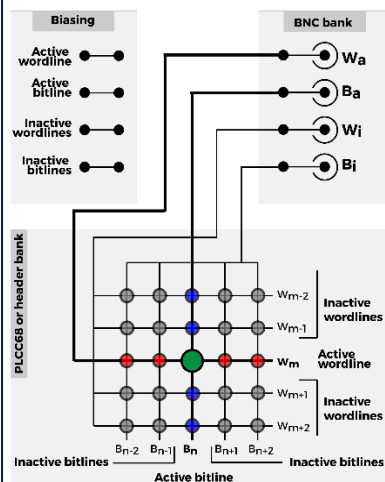

Figure 7: Live: BNC to Local session mode board connectivity.
3. **Live: BNC to Local** - in this operating regime the instrument's biasing circuitry is disabled and all voltage/current biasing to target devices is provided through the BNC terminals (Figure 7). The Arc platform only performs routing, i.e. directs bias voltages/currents from the BNCs to the selected device (in PLCC68 package or via header banks).